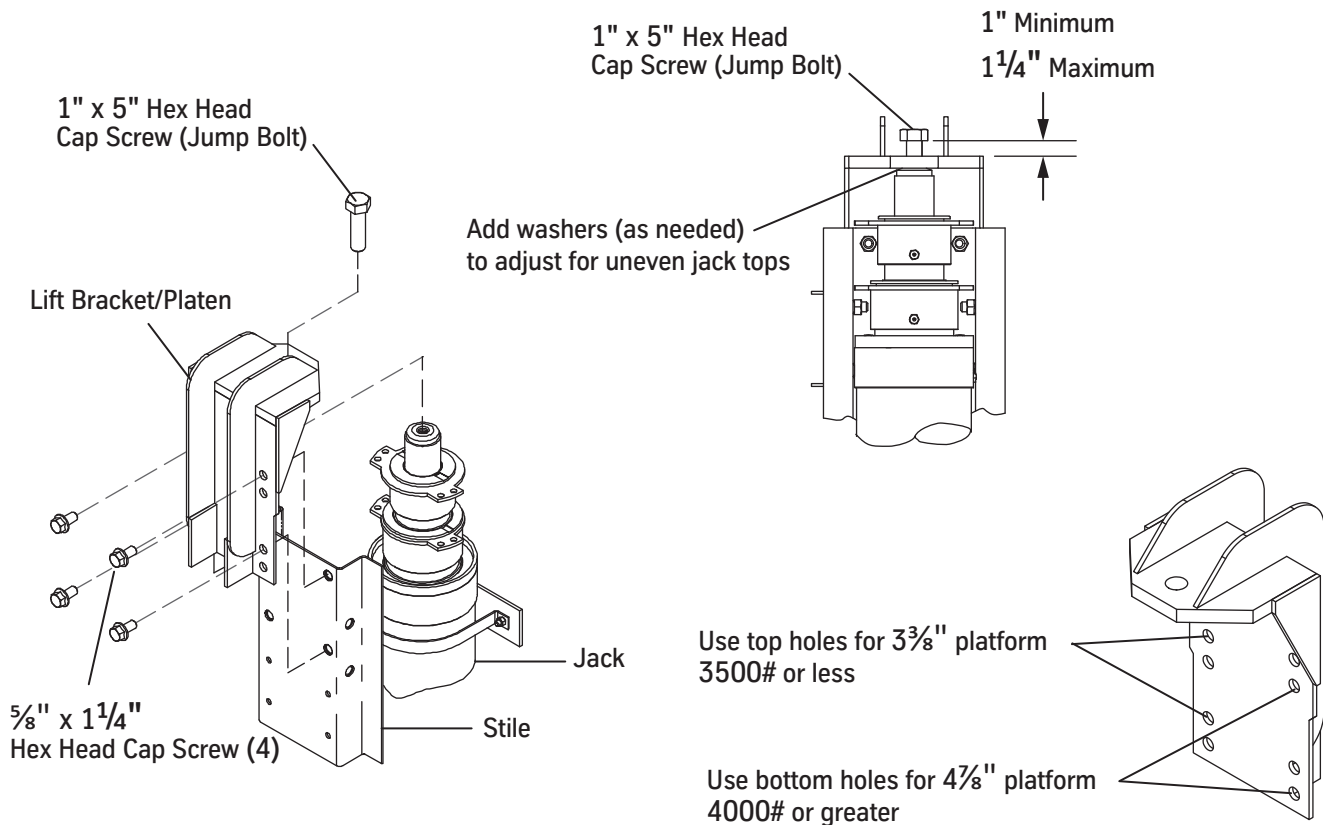

Figure 33 - Lift Bracket/Platen Assembly Mounting on Stile and Jack
1. Use four $\frac{5}{8}$ " x $1\frac{1}{4}$ " hex head cap screws to bolt a lift bracket/platen to each stile. See Figure 33 for all steps in this procedure.